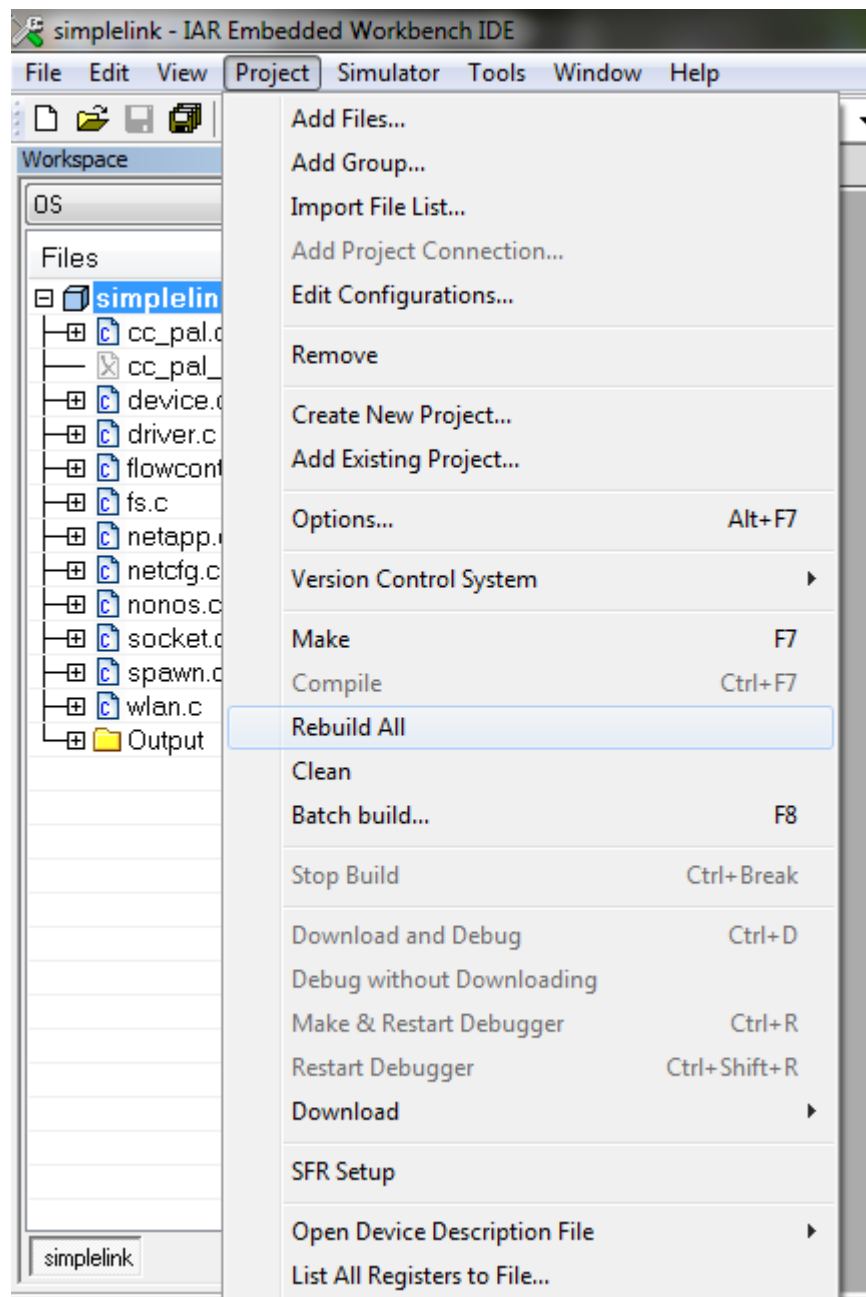

Figure 19. Rebuild the simplelink Project.
3. Rebuild the simplelink project by selecting Project>Rebuild All from the menu, as shown in Figure 19.